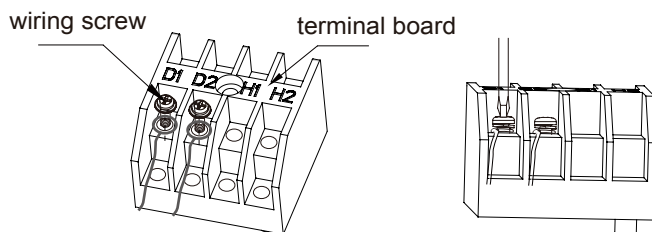

Fig 5.3.1
- (1) Detach the electric box lid.
- (2) Let the Communication cable pass through the wiring through-holes.
- (3) Connect the communication wire to terminal D1 and D2 of indoor 4-bit wiring board, as shown in fig 5.3.1.